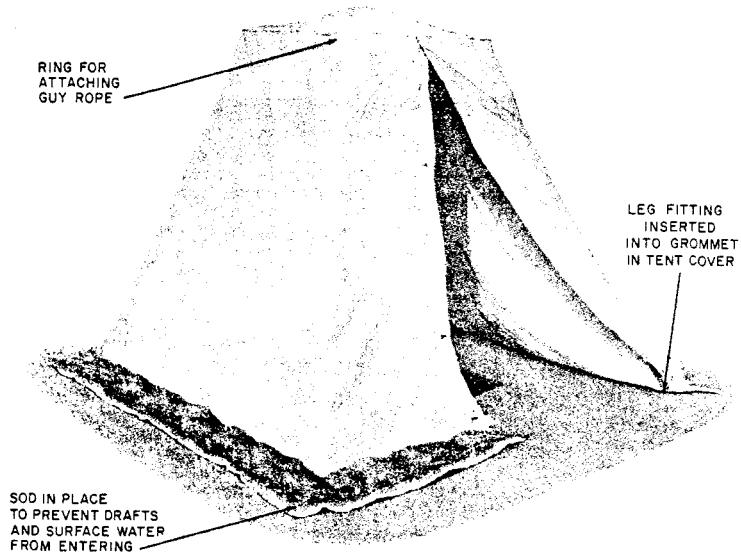

Fig. 3 — Tent Placed Over Excavation
3.02 After the tent has been erected, earth may be placed on the sod flap to prevent drafts and surface water from entering the tent. Fig. 3 illustrates the tent in position over an excavation.